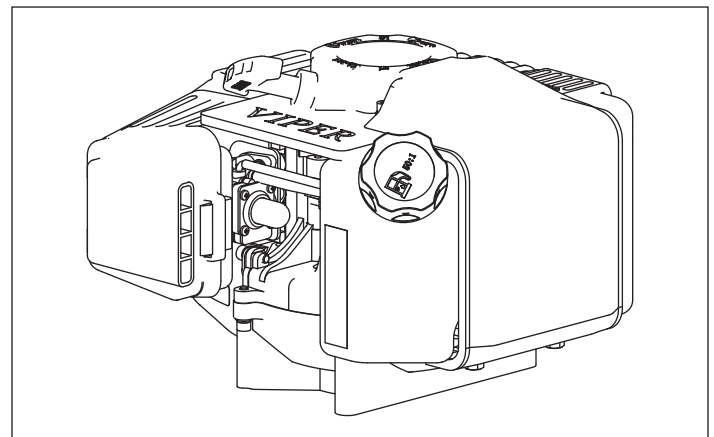

Figure 8
6. Replace the air filter cover so that it fully snaps into place and is secured by the latch tabs. Check that the cover is securely attached by pulling slightly on the cover. If the cover doesn't move when pulled, it is secure. **SEE FIGURE 8.**